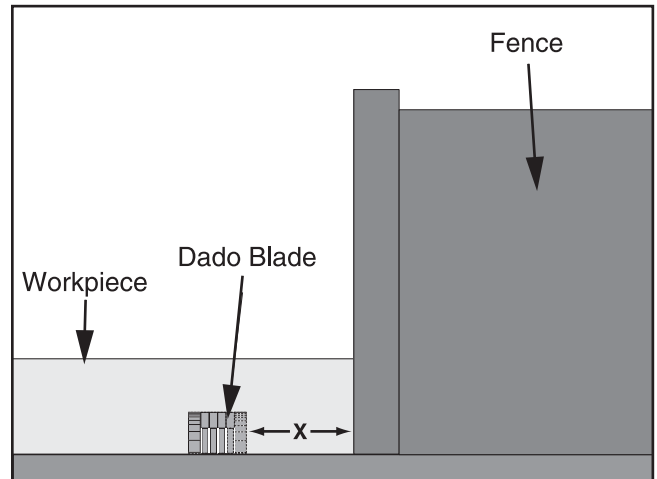

Figure 48. Stacked or wobble dado cut.
7. If dadoing along the long length of the workpiece, adjust the distance between the fence and the inside edge of the blade as shown in **Figure 48**.